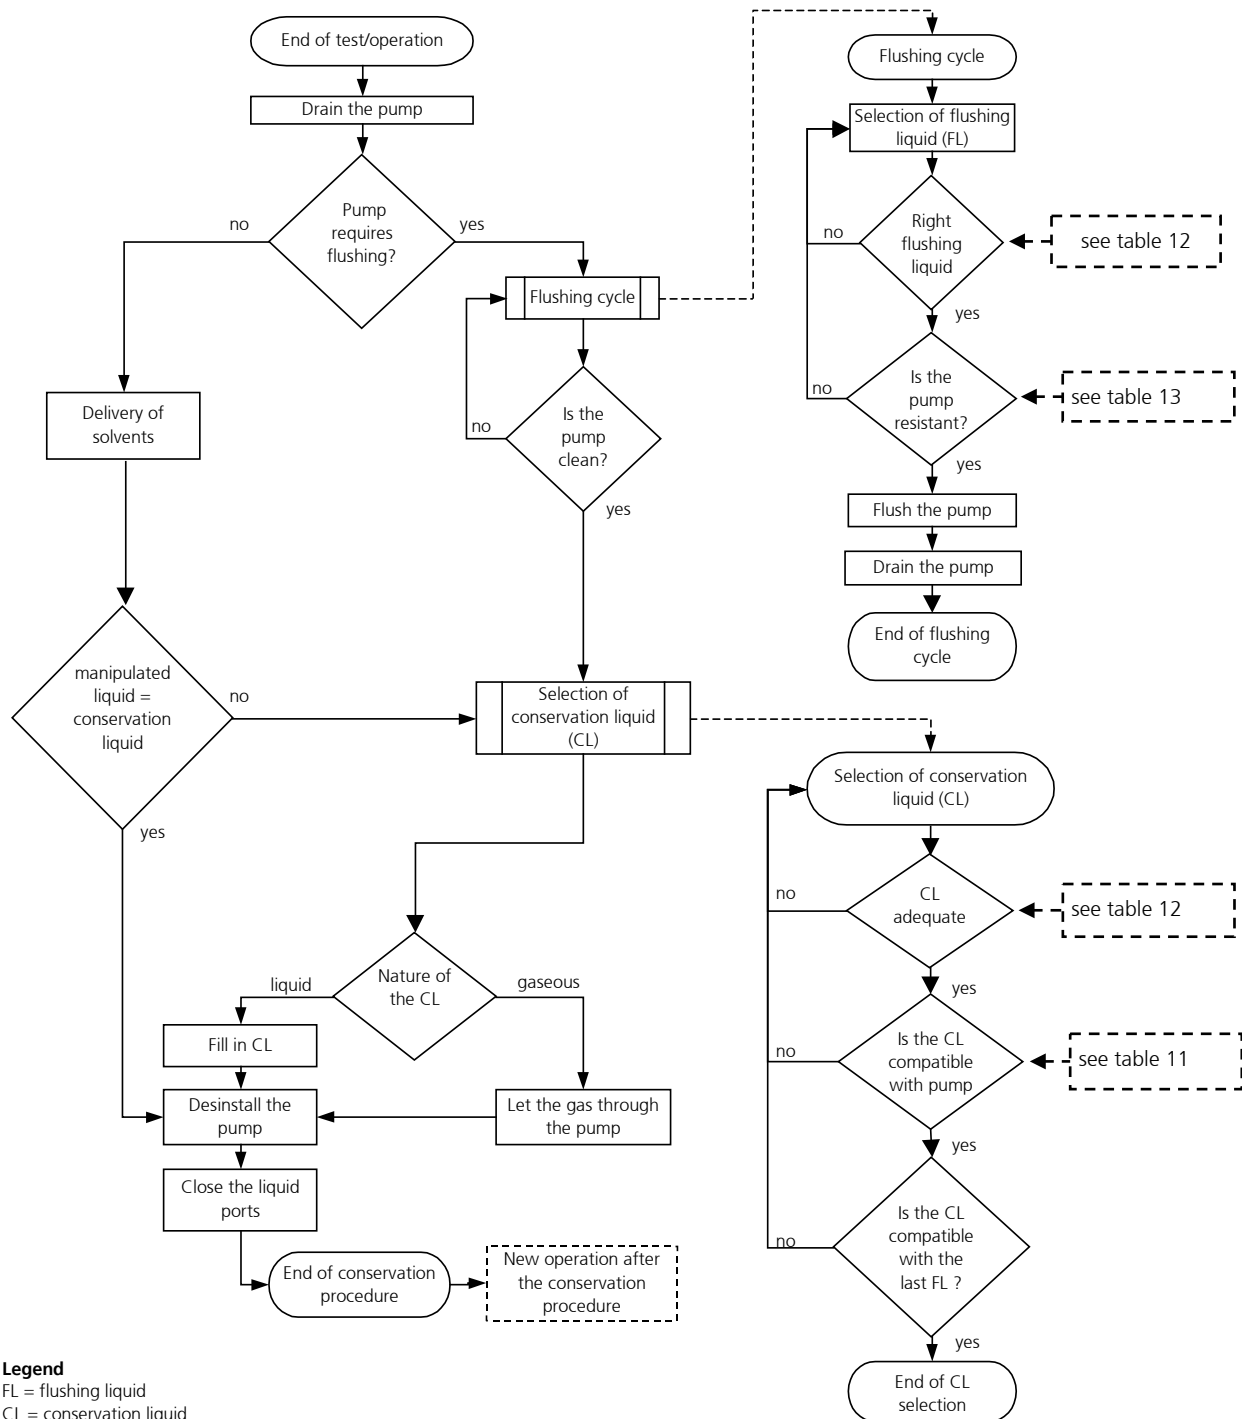

figure 20
By proceeding as shown in the diagram (see figure 20) you may prepare the pump for a longer standstill.
*Remark:* This diagram is repeated as a part of the figure 20 »Shutdown procedure«.